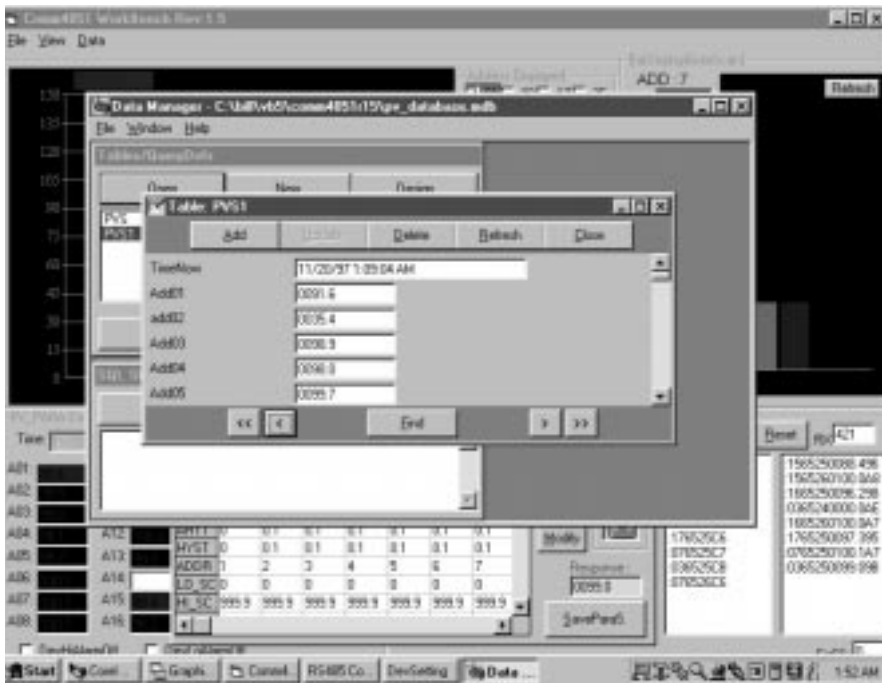

Figure 9.1 Opening database in run time
- open the file PV\_Database.mdb, you will see a form like Figure 9.1.